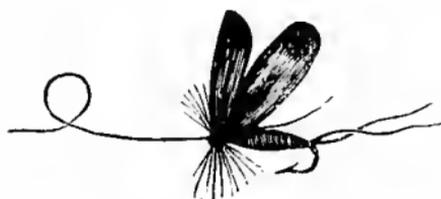

Fig. 198.—Blue Dun Fly.
*Blue Dun Fly.*—The illustration of the Blue Dun Fly, in Fig. 198, will illustrate the foregoing sufficiently to bring home my mean-